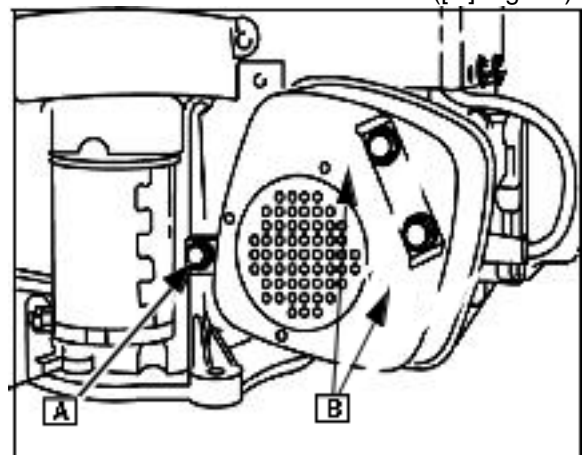

Fig. 29
1. Remove muffler brace screw ([A] Fig. 29).
Band back locking tabs ([B] Fig. 29).